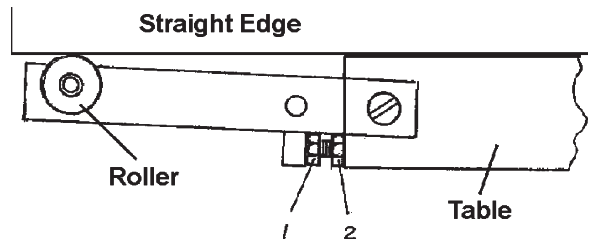

Figure 2. Table Extension Adjustment
1. With the roller up, place each table extension bracket (157) onto the table (125) and attach using two cap screws (164). Be sure the bracket assemblies are firmly attached, but are able to rotate up for storage.
2. Adjust each table extension so that a workpiece supported by the roller is level and in the same plane with the table. Do this by adjusting the cap screws (1) in or out as required. *See Figure 2.* Check the adjustment by placing a straight edge at least 24" long through the machine, and resting on the table and both extension rollers. When the extension is properly adjusted, lock the cap screws in place with the lock nuts (2).